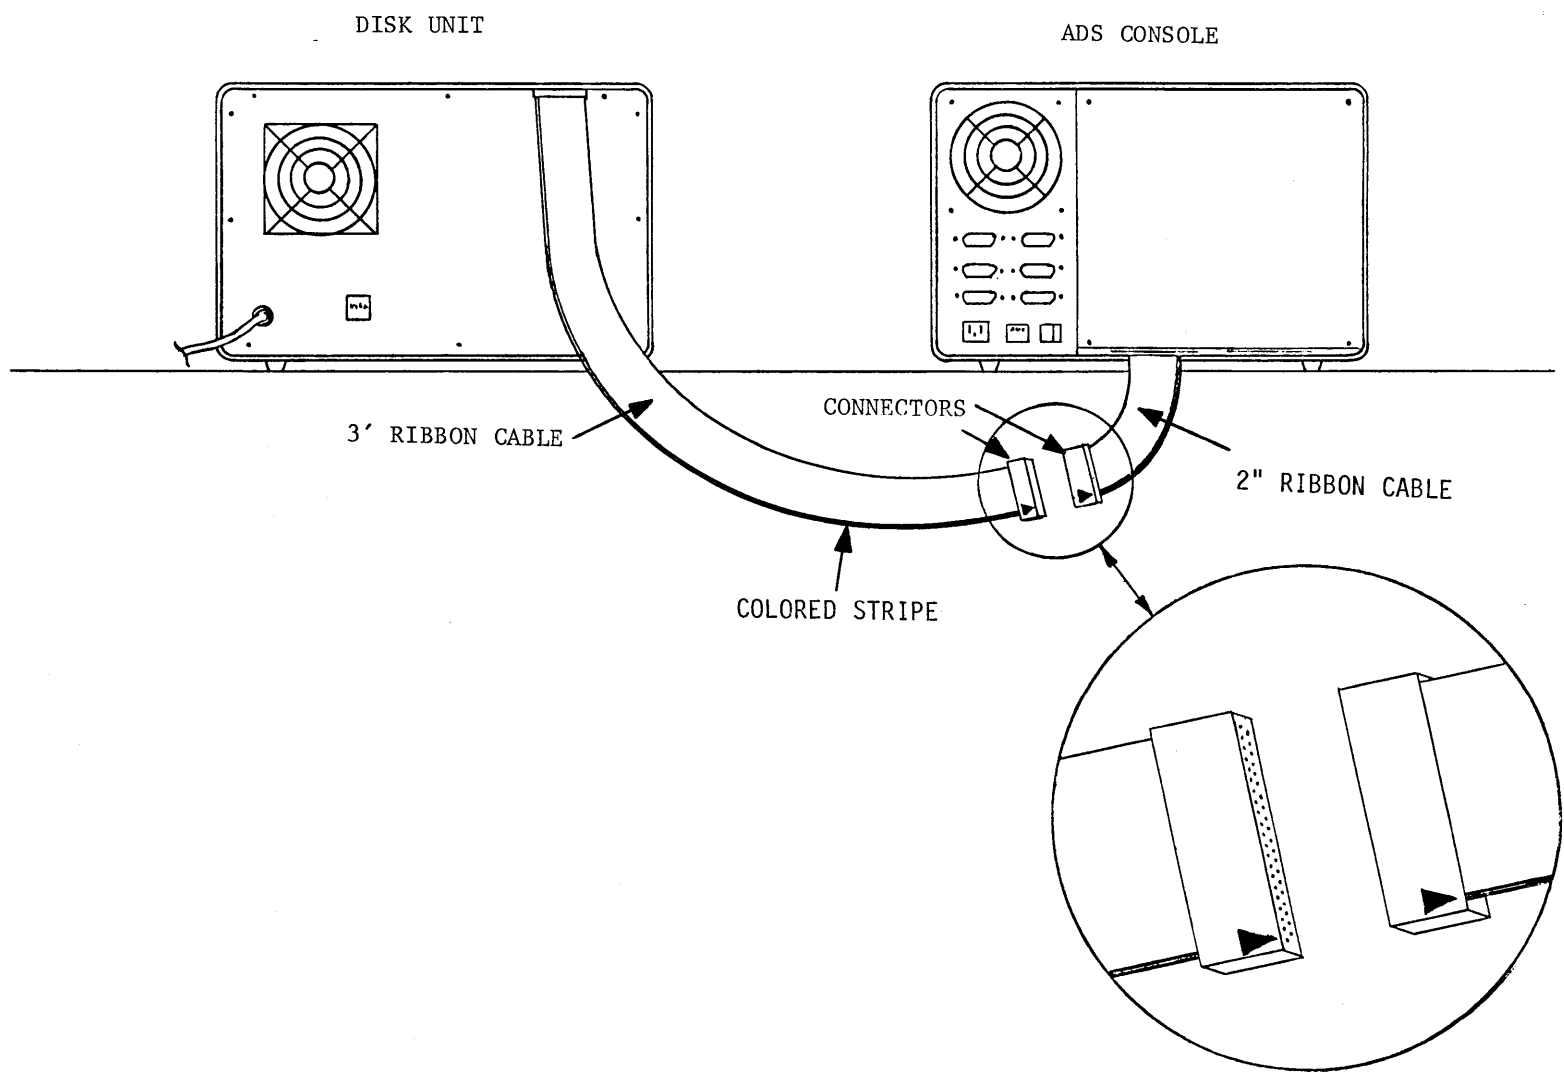

Figure 1-10. I/O Connections
- 1.5.3.3 Connect the jack at the end of the 3 foot I/O cable on the disk drive unit to the plug at the end of the I/O cable on the console. This cable is the 2-inch flat flex cable running under a clamp near the card cage. The colored stripes on both flex cables must be linked on the same side, giving the semblance of a continuous connection. The colored strip on the extreme edge of the cable represents pin one. See Figure 1-10, I/O Connections. As a final check, the arrow heads on both connectors must be aligned.